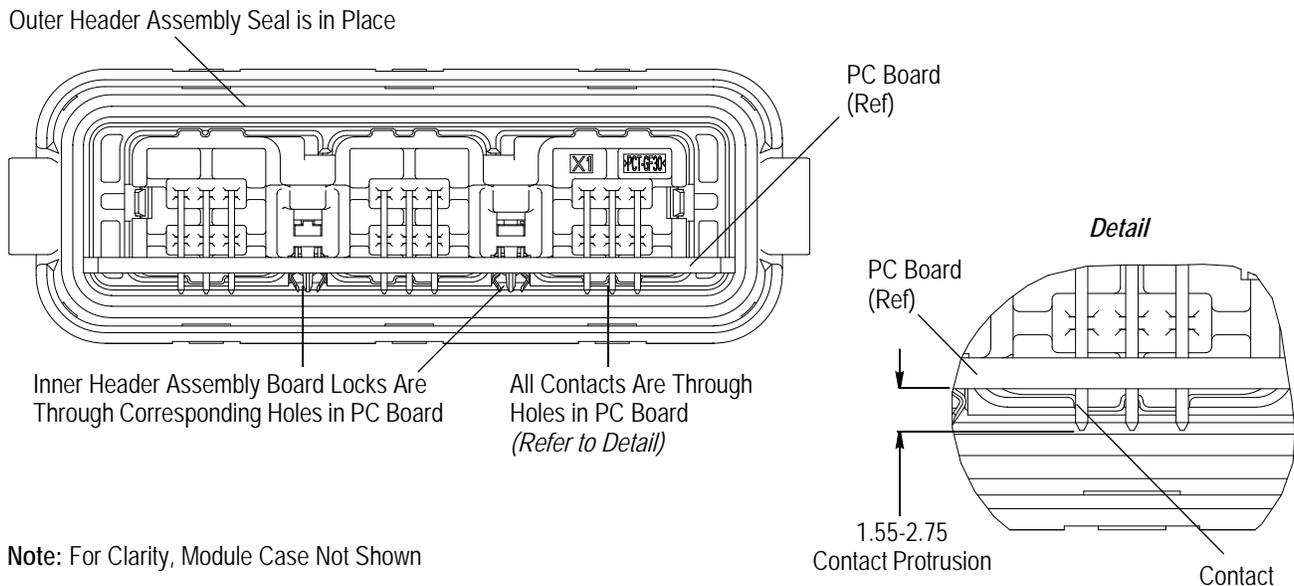

Figure 5
- Removed extra line for board locks in Figure 5
- all contacts are through the holes in the pc board with a protrusion within the dimension given in Figure 5